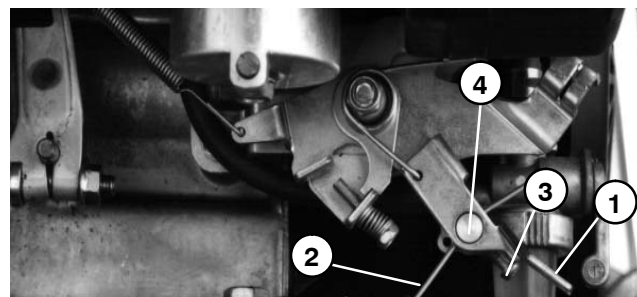

Figure 14
A. Loosen screw on governor lever enough to slide the throttle cable out of the nut (Fig. 14).